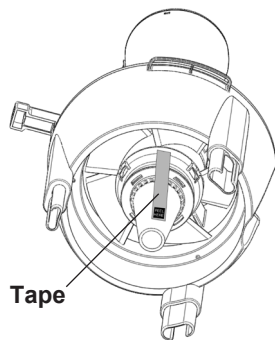

Figure 1
**ATTENTION:** Before operating the unit, remove the tape strips located on the bottom of the power pack. These tape strips are used to secure the pump components during shipment and should be removed prior to operation. See Figure 1.